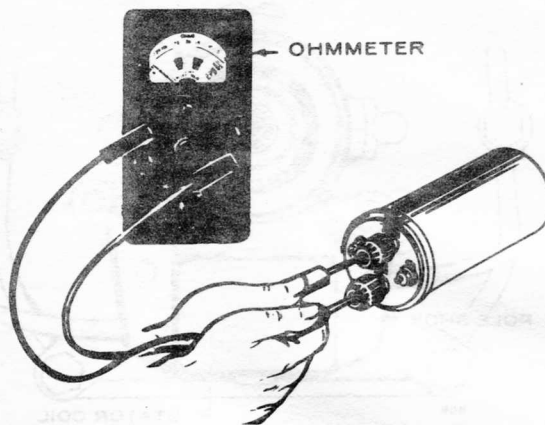

FIGURE 20. TESTING IGNITION COIL
3. Change resistance setting on ohmmeter. Place ohmmeter leads inside of spark plug cable holes, Figure 20. Secondary resistance should read 12,600 - 15,400 ohms.